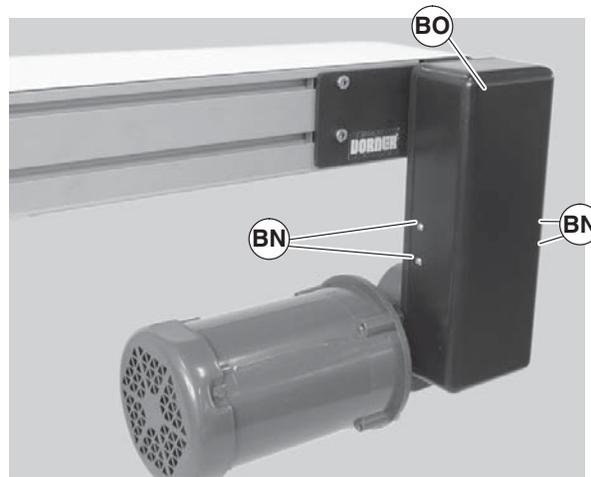

Figure 51
- Remove four (4) screws (Figure 51, item BN) and remove cover (BO).